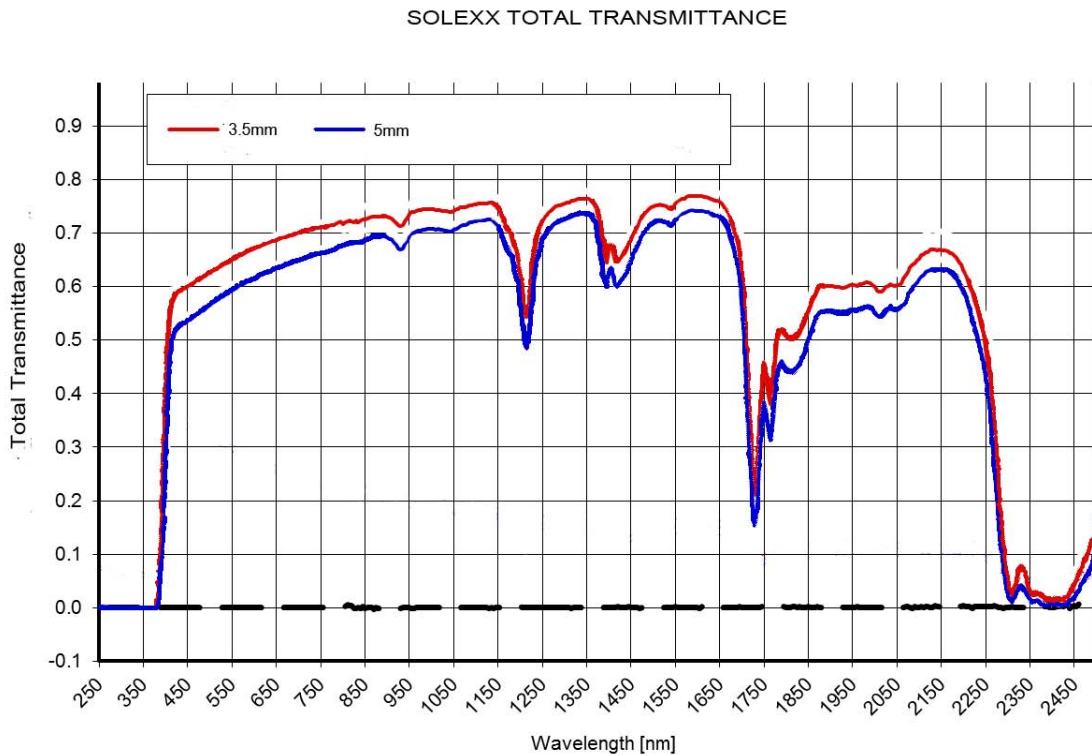

Figure 6
Full spectral light results in optimal photosynthesis. The optimal growing range is the same as the visual spectrum; however, plants do not use the green spectrum for photosynthesis as the leaves reflect it, rather than absorb the light. (See Figure 6 below for the full spectral graph of Solexx Transmittance)
Light transmitted through Solexx produces full spectrum light. In figure 6, the x axis (horizontal) represents the light spectrum from 250 to 2500 nm, while the y axis (vertical) represents the total percent transmittance. The red and blue lines show the total transmittance over the light spectrum. The baseline appears as 0.0 on the y axis. The red line represents the results of two samples of 3.5mm Solexx and the blue lines represents two samples of 5 mm Solexx. Due to its twin walled construction and since Solexx is installed vertically (V) and horizontally (H), Solexx was tested in both directions with no significant difference in performance. The total transmittance was very high for the photosynthetically active radiation range in both the 3.5 mm and 5 mm Solexx. In the ultraviolet range, both thicknesses block out all UV below the 380 nm level due to the UV inhibitor in the Solexx. A small divergence in performance occurs for Solexx in the infrared